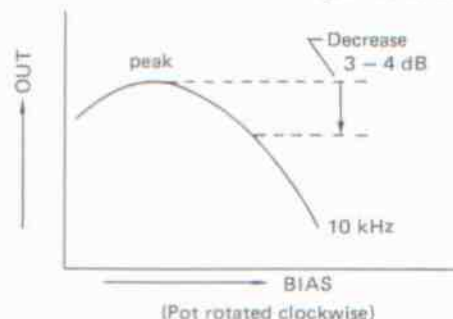

Fig. 7-6-10. Bias Level Adjustment
5. Begin the adjustments by turning trim pot R211, 100 k ohms completely counterclockwise. Next, turn the trim pot itself clockwise and the AF level meter will rise to give peak reading. Slowly continue the clockwise rotation until the reading on the level meter drops 3 – 4 dB from the peak reading as shown in Fig. 7-6-10.